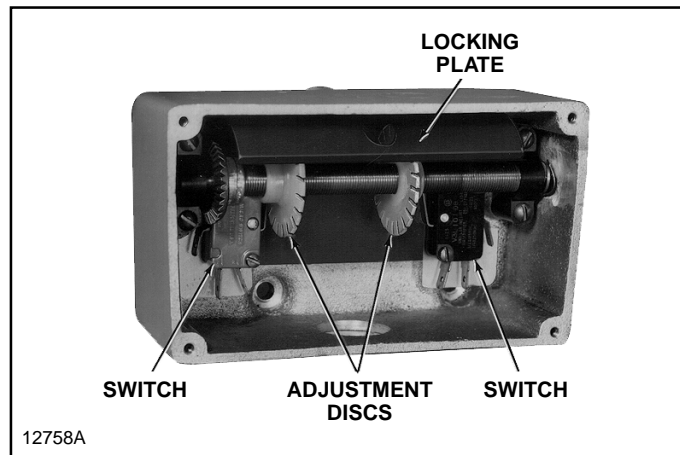

Figure 9-2. Screw-Type Limit Switch Adjustment.
b. Adjustment. Adjustment of this screw type limit switch is accomplished as follows (see Figure 9-2).